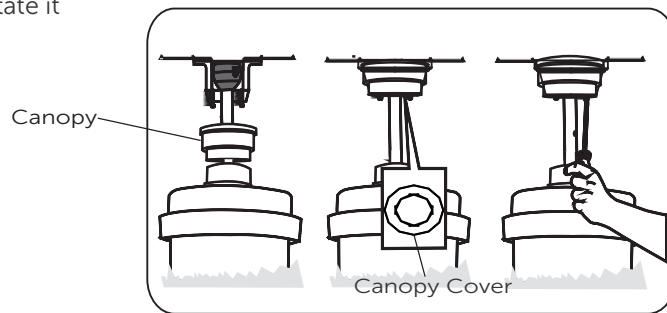

Fig. 6
6. Loosen two canopy screws part way, and then push the canopy upwards by inserting canopy screw heads into key hole slots, rotate the canopy till it is locked in place, and finally tighten canopy screws (Fig. 6).